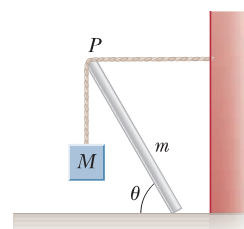

Figure P12.51
51. A uniform beam of mass m is inclined at an angle θ to the horizontal. Its upper end (point P) produces a 90° bend in a very rough rope tied to a wall, and its lower end rests on a rough floor (Fig. P12.51). Let μ_s represent the coefficient of static friction between beam and floor. Assume μ_s is less than the cotangent of θ . (a) Find an expression for the maximum mass M that can be suspended from the top before the beam slips. Determine (b) the magnitude of the reaction force at the floor and (c) the magnitude of the force exerted by the beam on the rope at P in terms of m , M , and μ_s .